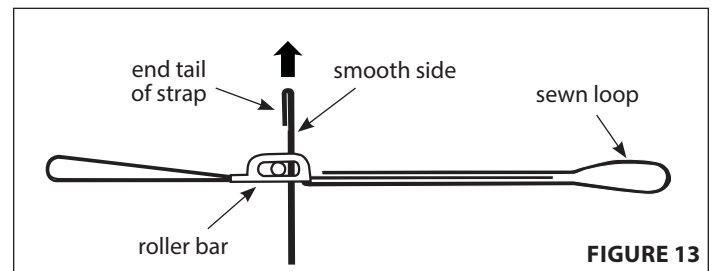

FIGURE 13
2. Feed end tail of strap up through the bottom of the float buckle on the sewn loop side of the roller bar. **SEE FIGURE 13.**